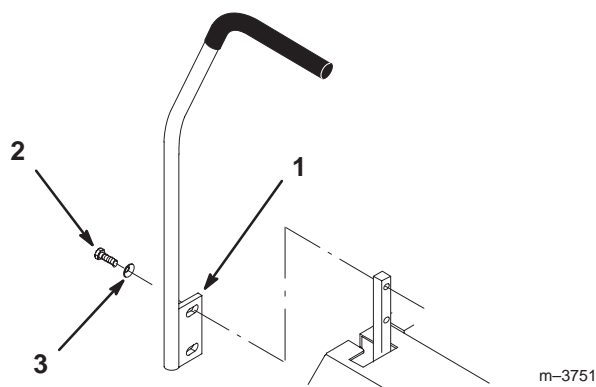

Figure 4
1. Remove the (4) 3/8-16 x 1" (26 mm) bolts and (4) 3/8" spring washers which attach the motion control levers to the control arm shafts for shipping (Fig. 4).
2. Place the levers (with the mounting plate toward the rear) on the outside of the control arm shaft and secure with (4) 3/8-16 x 1" (26 mm) bolts and (4) 3/8" spring washers (Fig. 4).
4. Align the front/rear position of the levers, with each other, in the neutral position. Loosen hardware and adjustment by sliding/tilting the lever(s) forward or backward until properly aligned (Fig. 4).